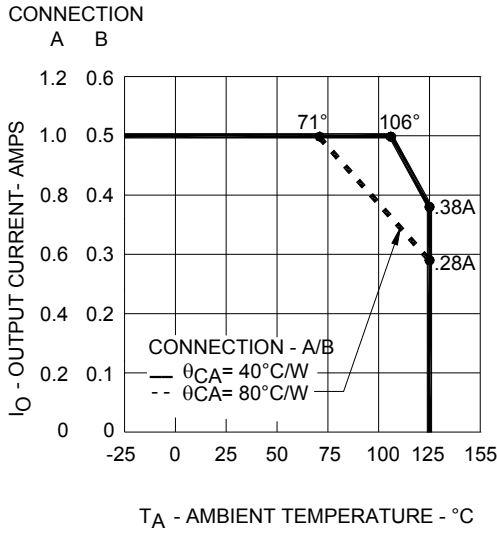

Figure 3. Maximum Average Output Current Rating vs. Ambient Temperature.
Average Output Current, derated per Figure 3
3. For rating, see Figure 5. The output power  $P_D$  rating curve is obtained when the part is handling the maximum average output current  $I_O$  as shown in Figure 3.